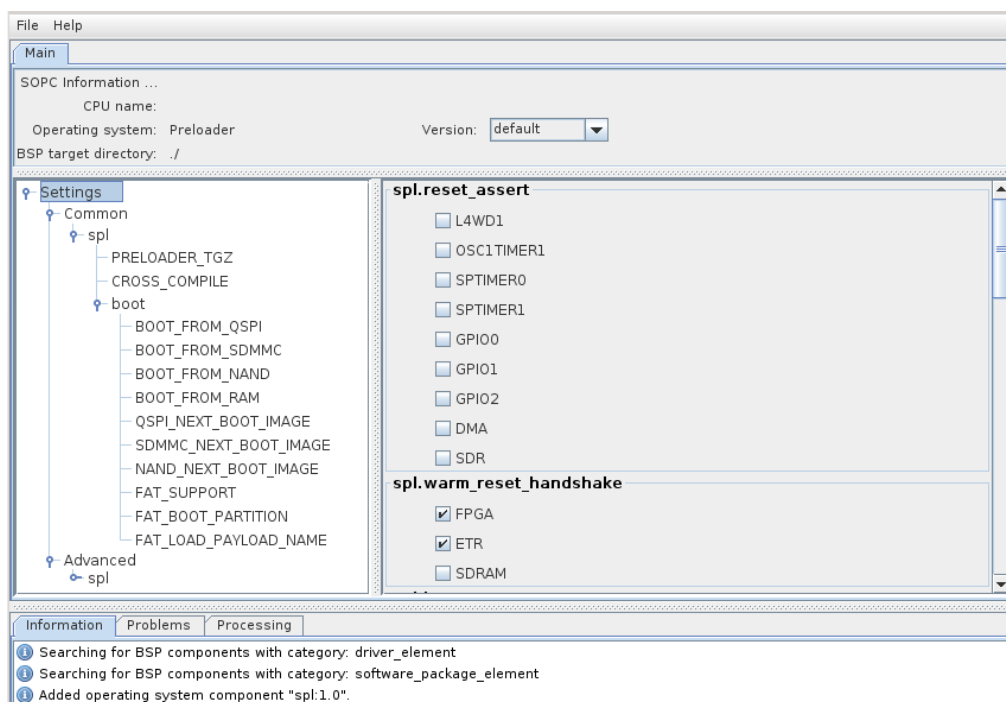

Figure 8-27. Preloader Settings Dialog
- c. Press the “OK” button. You should then arrive on a page with many settings, as shown on Figure 8-27. Take some time to read through them to see what the preloader has the ability to do.
6. On the main settings page of Figure 8-27, we will only need to modify 3 parameters for our design.